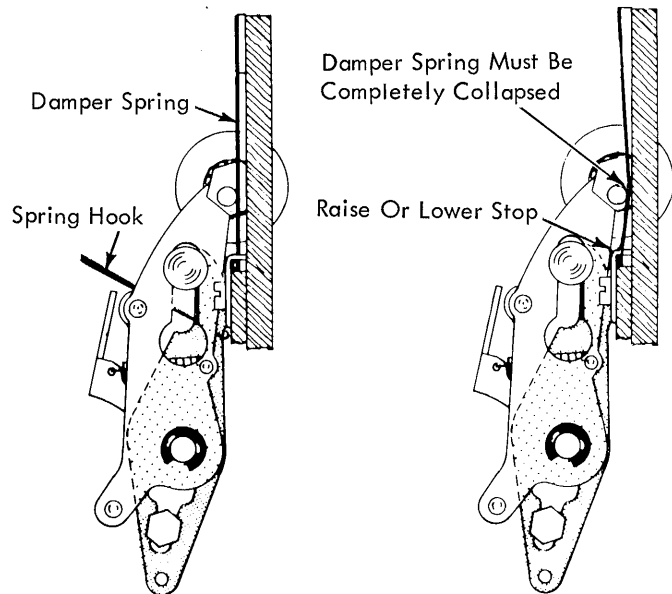

FIGURE 127. Damper Spring Stop
- d. Damper spring stop - with the typehead removed, raise the stop so that when a lower case -5 character is half-cycled the damper spring will just collapse against the sideframe. Check by pulling the compensator arm away from the sideframe with a spring hook and then allow it to go back in slowly (Fig. 127).